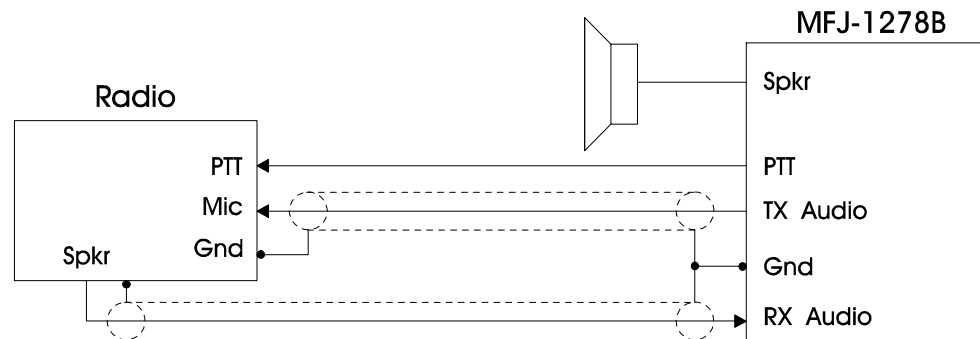

Fig. 3-5 Method One Interconnect.
For Method 1, shown in Fig. 3-5, the MFJ-1278B's audio is fed directly into the microphone connector or similarly connected auxiliary jack. The output of the MFJ-1278B will be adjusted to give a proper modulation level. The receiver audio will be taken from an earphone plug or speaker jack and fed directly to the MFJ-1278B. The user can connect a monitor speaker to the SPEAKER jack of the MFJ-1278B. This allows you to monitor the transmit and receive audio on the channel.
1. Connect your MFJ-1278B and radio as shown in Fig. 3-5. Turn on the MFJ-1278B and computer and start your terminal program. Connect the radio to a dummy load and listen to the transmission with another nearby radio.